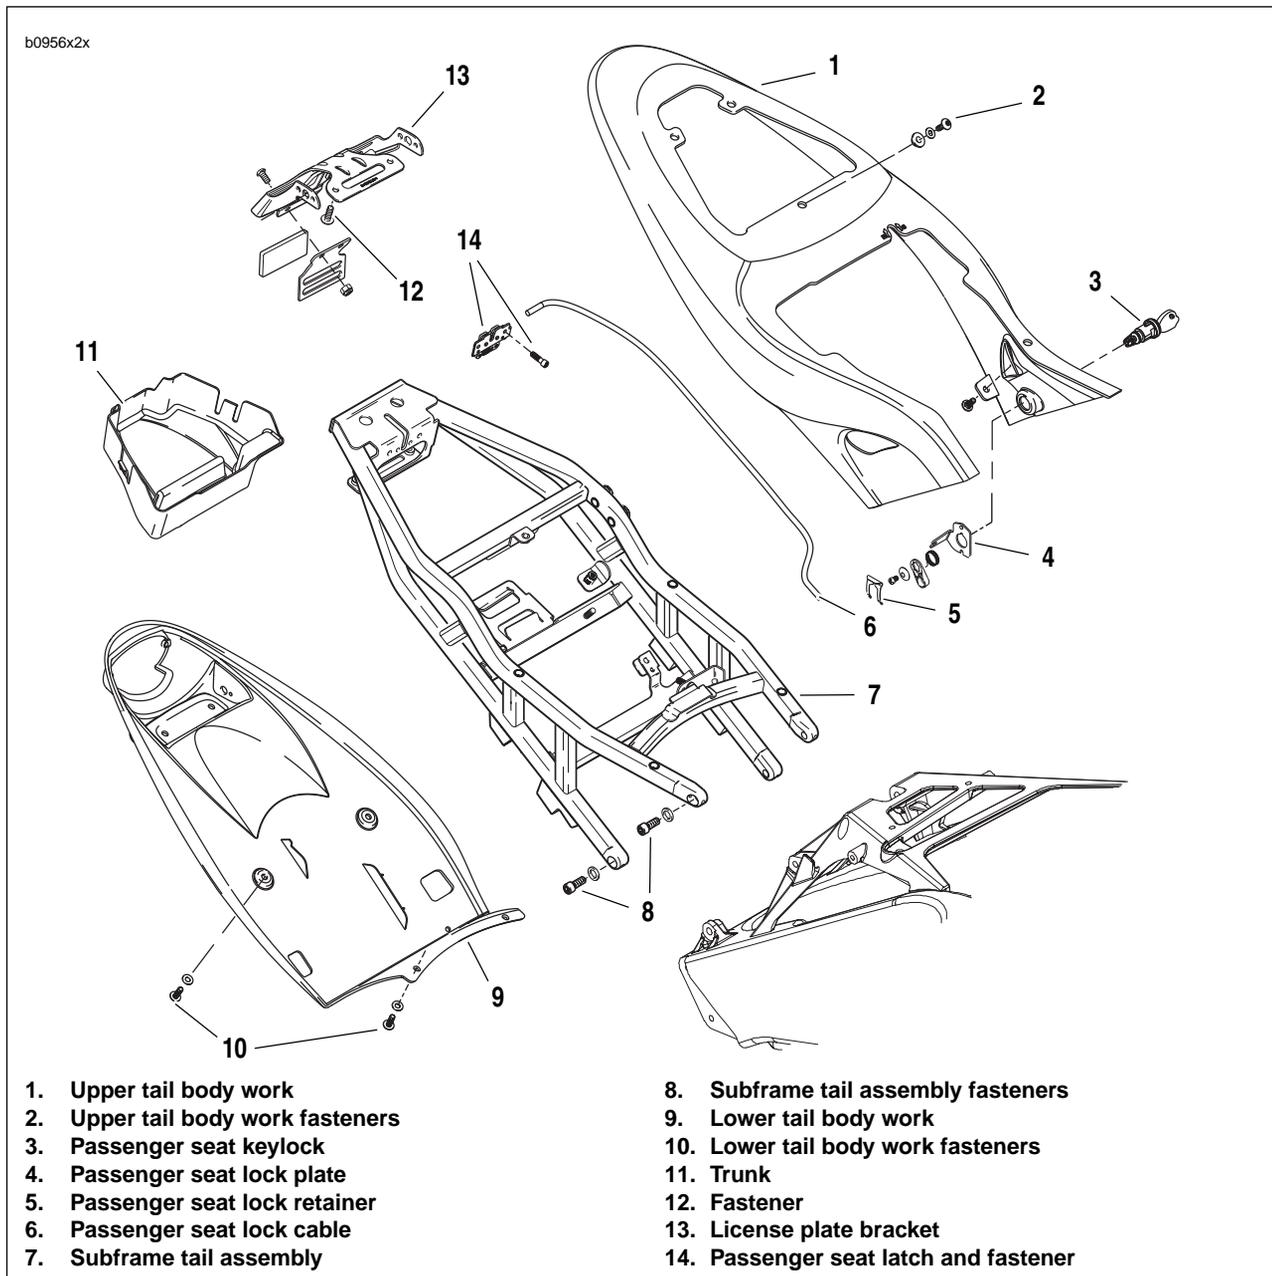
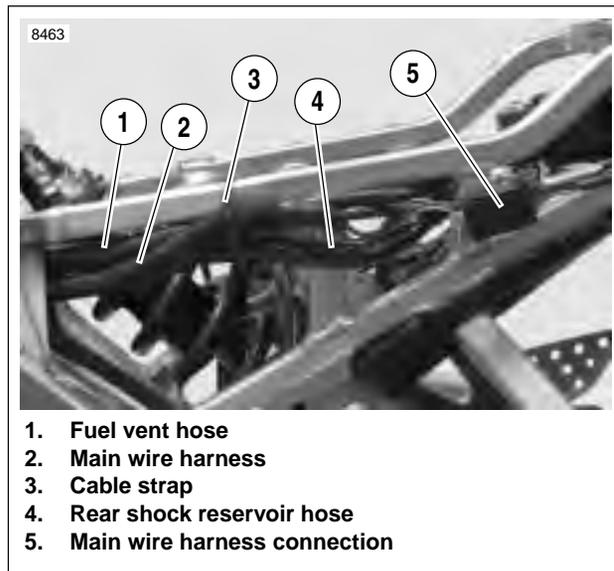
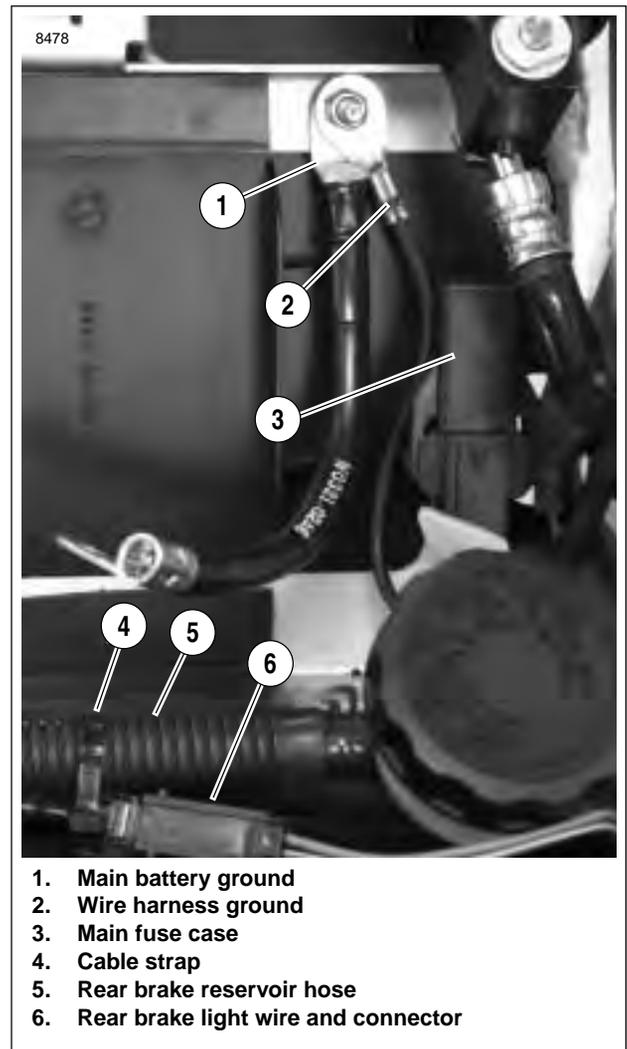
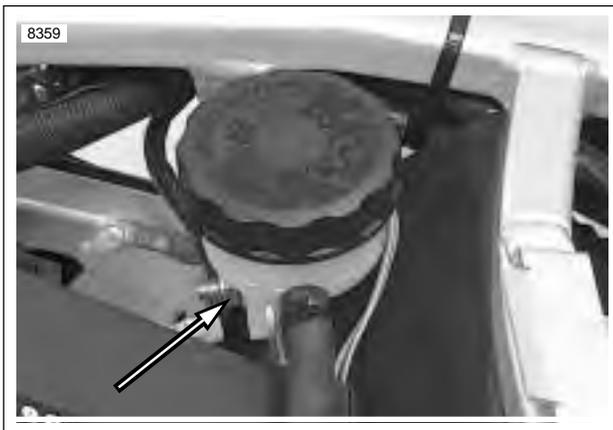

Figure 2-115. Subframe Tail Assembly and Body Work Assembly
Figure 2-116. Left Side Subframe Tail Assembly Hose and Wire Routing
Figure 2-117. Inside Subframe Tail Assembly Hose and Wire Routing
Figure 2-118. Remote Reservoir Clamp Nut
3. See Figure 2-115. Remove upper body work (1) from subframe tail assembly (7).
- a. Remove body work fasteners (2).
- b. Disconnect passenger lock cable (6) by removing cable from seat lock plate (4) and ferrule from keylock (3).
- c. Lift upper tail body work (1) off subframe tail assembly (8).
4. Remove passenger seat latch (14) from rear of subframe tail assembly.
5. See Figure 2-116. Cut cable strap (3) from subframe tail assembly holding vent hose (1), main wire harness (2) and shock reservoir hose (4).
6. Disconnect rear power harness connection (5).
10. See Figure 2-115. Remove license plate fasteners (12) from lower tail body work (9) and remove license plate (13).
12. Remove lower body work (9) and trunk (11) from subframe tail assembly (7).
- a. Remove lower body work (9) underneath subframe tail assembly by removing fasteners (10).
- b. Remove trunk (11).
13. See Figure 2-117. Disconnect main battery ground (1) and ground to wire harness (2).
14. Remove main fuse case (3) from subframe tail assembly.
15. See Figure 2-117. Cut cable strap (4) holding rear brake reservoir hose (5) and rear brake light wire (6).
16. Disconnect rear brake light connection (6).
17. See Figure 2-118. Remove rear brake reservoir clamp nut.
20. See Figure 2-115. Remove subframe tail assembly fasteners (8) and remove subframe tail assembly (7) from frame.
1. Install subframe tail assembly (7) to frame and tighten fasteners (8) to 21-23 ft-lbs (28-31 Nm) using LOCTITE 272.
3. See Figure 2-117. Feed rear brake light connector (5) into subframe tail assembly and connect.
4. Install main fuse case (3) onto subframe tail assembly.
5. Install main battery ground (1) and ground to wire harness (2) to subframe tail assembly. Tightening fastener to 72-96 **in-lbs** (8-11 Nm).
6. See Figure 2-116. Feed the rear shock reservoir (4) through second subframe tail assembly support.
9. See Figure 2-116. Feed fuel vent hose (1) through tail section, keeping the hose on top of rear shock reservoir hose. See D.1 HOSE AND WIRE ROUTING for hose and wire routing.
10. Install cable strap (3) holding shock reservoir hose, wire harness and fuel vent hose to subframe tail assembly.
11. See Figure 2-118. Feed rear brake reservoir hose underneath subframe tail assembly and install rear brake reservoir tightening fastener to 48-72 **in-lbs** (5.4-8.1 Nm).
12. See Figure 2-117. Install cable strap holding brake light connector and rear reservoir hose.
13. See Figure 2-115. Install lower body work (9) and trunk (11) onto subframe tail assembly (7).
- a. Install trunk (11).
- b. Install lower body work (9) underneath subframe tail assembly by tightening fasteners (10) to **36-48 in-lbs** (4-5 Nm).
15. See Figure 2-116. Connect rear power harness to tail light harness (5).